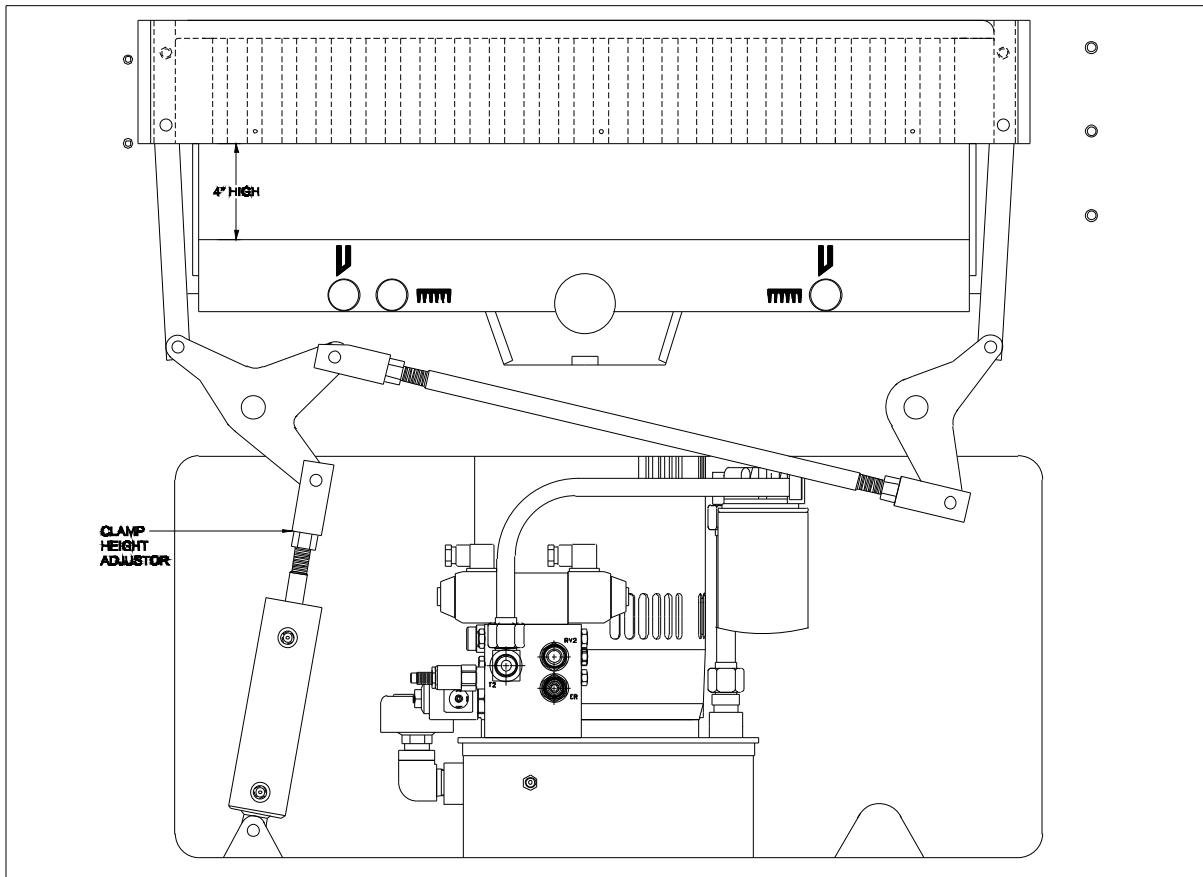

Fig 10
1. Make sure the clamp is in the full up position by turning the "MAIN POWER SELECTOR" switch to "ON" and allow the MPS to reset. Press the two (2) black cut buttons to start the main motor. Press the "SOFT CLAMP" pedal to lower the clamp. Release the pedal and the clamp will rise up to the full up position. Turn the "MAIN POWER SELECTOR" switch to "OFF".
2. Measure the height of the clamp on the left side. It should be 4". Fig. 10. **NOTE:** If the clamp up limit switch is depressed to far the clamp will not rise to the 4" height. Adjust the switch until the 4" height is attained.
5. The clamp cylinder is on the left side and the smaller of the two (2) cylinders. Fig. 10.
8. Turn the power disconnect "ON" and then turn the "MAIN POWER SELECTOR" switch to "ON" and allow the MPS to reset. Press the two (2) black cut buttons. The main motor will start and the clamp will rise to the full up position. Re-Measure the 4" and repeat steps 3 through 8 if needed. Replace the front access panel.